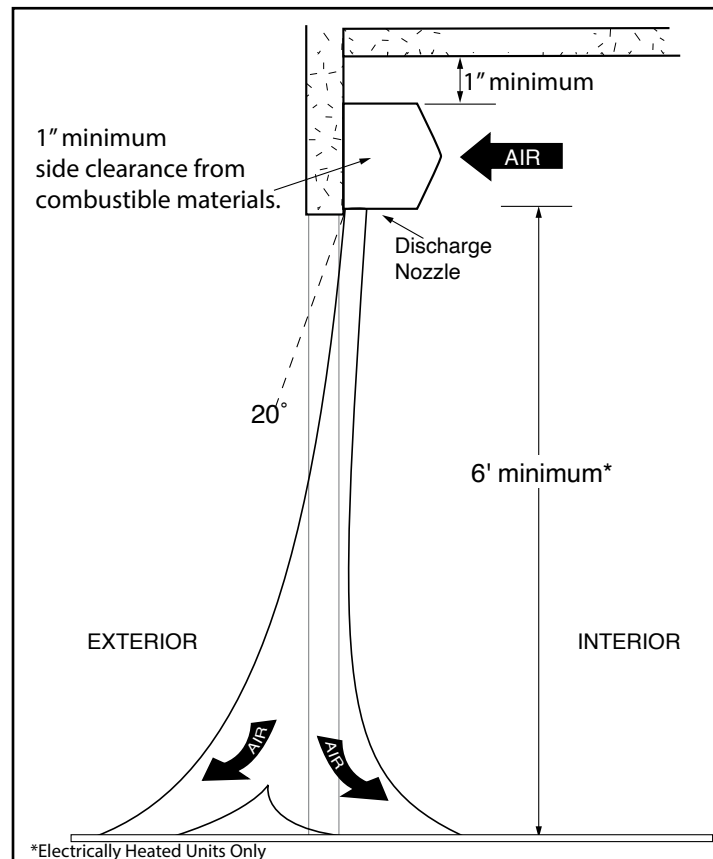

FIGURE 2 - Air Stream (for exterior mounting, see FIGURE 10)
- When determining the mounting location for the unit(s), make sure that nothing interferes with the curtain of air developed when the discharge vanes are directed from 0° to 20° toward the door opening. If the air stream strikes any obstruction (the top edge of the doorway, a door opening device, etc.), the effectiveness of the unit will be greatly reduced. **See FIGURE 2.**